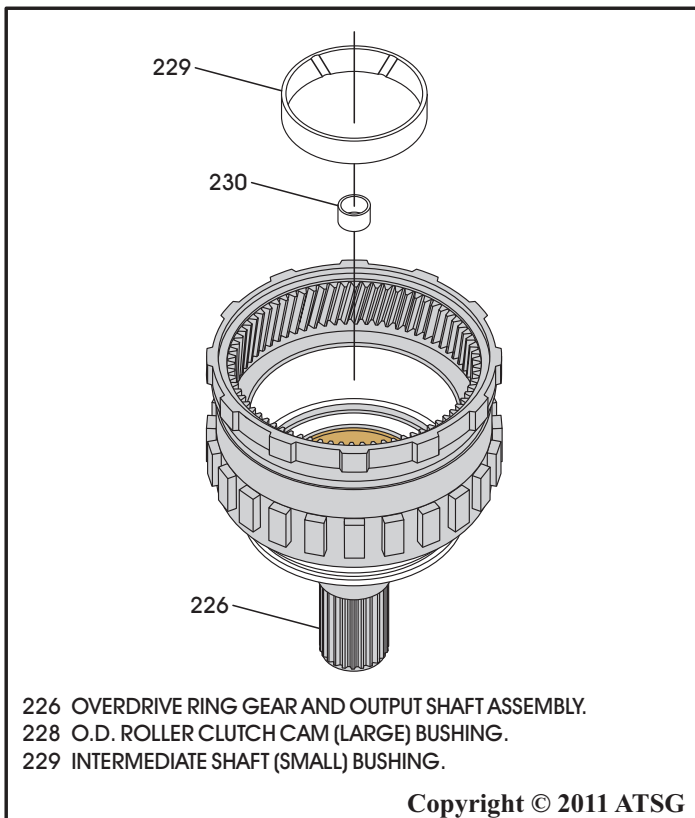

Figure 168
3. Install new bushings in output shaft as necessary, as shown in Figure 168, using proper drivers.
4. Lubricate both bushings with a small amount of Trans-Jel® (See Figure 168).